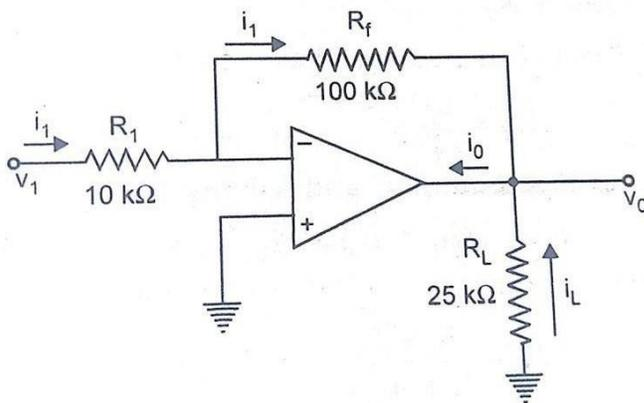

Fig. 2.5 (b) Circuit for Example 2.2
- In figure 2.5(b),  $R_1 = 10\text{K}\Omega$ ,  $R_f = 100\text{K}\Omega$ ,  $V_i = 1\text{V}$ . A load of  $25\text{K}\Omega$  is connected at the output terminal. Calculate (i)  $i_1$  (ii)  $V_o$  (iii)  $i_L$  and total current  $i_o$  into the output pin